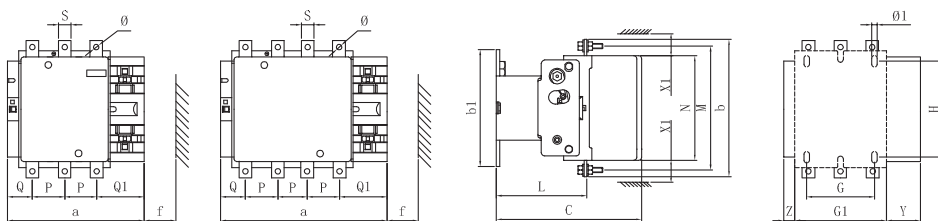

Fig. 2 Outline and Installation Dimensions of CJX2F-115, 1154, 150, 1504, 185, 1854, 225, 2254, 265, 2654, 330, and 3304
- 6.1 The outline and installation dimensions of CJX2F-115, 1154~330, and 3304 see Fig. 2 and Table 4.